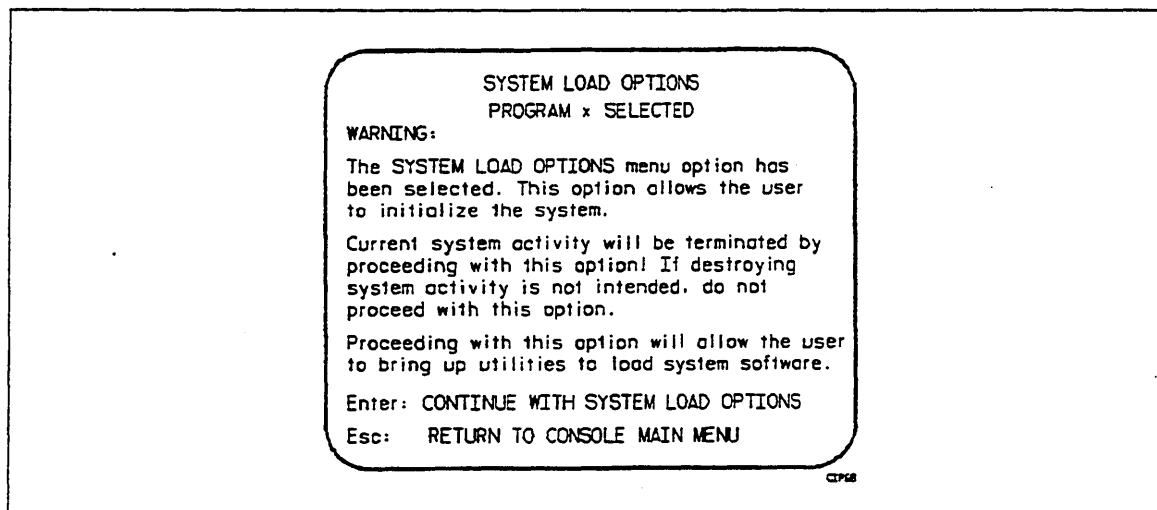

Figure 3-3. System Load Options Warning
- 2. If the appropriate deadstart program is selected,¹ type S or press Enter; the SYSTEM LOAD OPTIONS warning shown in figure 3-3 appears.
- 2. From the CONSOLE MAIN MENU type **s** or press **Enter**. Because current system activity will be terminated by proceeding with the **s** option, the warning display shown in figure 3-3 appears. From this display, press **Enter** to proceed to the INITIAL OPTIONS display.
- 2. From the **CONSOLE MAIN MENU** type **S** or press **Enter**. Because current system activity will be terminated by proceeding with the **S** option, the warning display shown in figure 3-3 appears. From this display, press **Enter** to proceed to the **INITIAL OPTIONS** display.